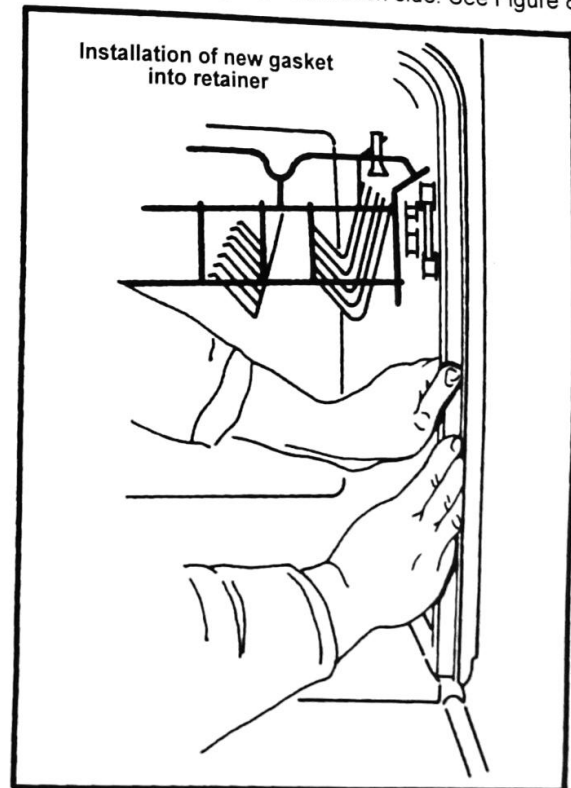

Figure 8
2. Push the gasket into the retainer starting at the center tab of the retainer and going down each side. See Figure 8.